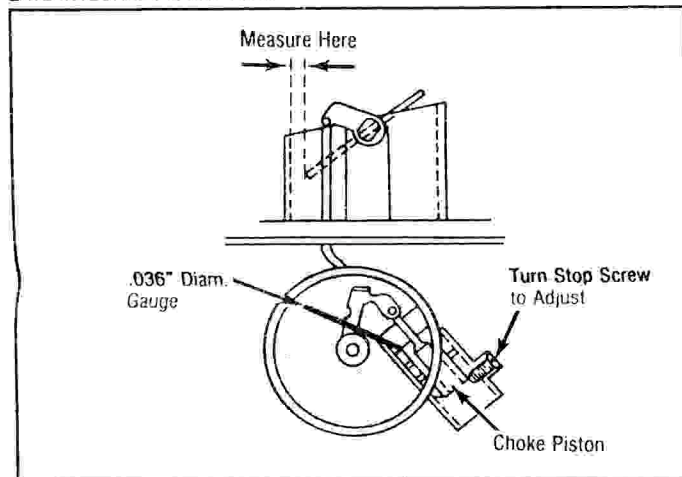

Fig. 11 Choke Pull Down Adjustment (Late Integral Piston Type)
1. With choke coil housing and baffle plate removed, insert a .036" wire gauge into the piston bore. This will move piston down against stop. See Fig. 11.